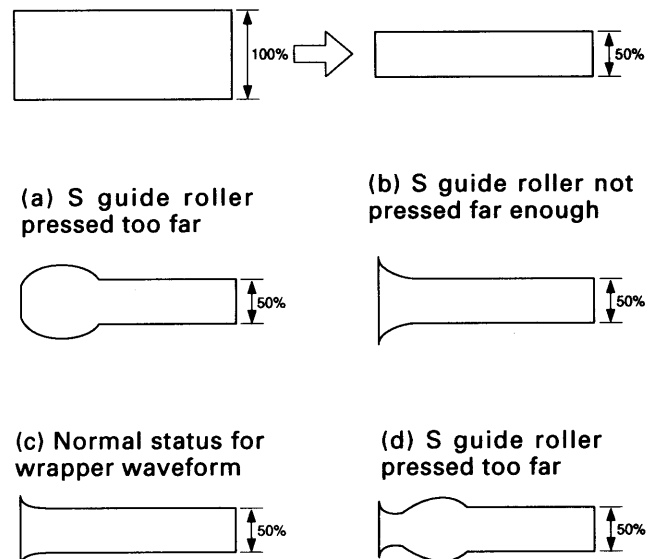

Fig.4-3-4
- ① Playback the alignment tape (NTSC: VSJ-1001, PAL: VHJ-0052). Press the tracking (–) button, and check whether, when the envelope waveform has reached 50% of its maximum, the front half of the envelope waveform is flat. If not, fine-tune the S guide roller as follows.
- a. If the front half of the envelope waveform is as shown in Fig.4-3-4 (a), this means that you have pressed the S guide roller too far. Therefore, loosen it slightly, and when it is in the state shown in Fig.4-3-4 (b), tighten it again, stopping when the envelope waveform is flat.
- b. If the front half of the envelope waveform is as shown in Fig.4-3-4 (b), this means you have not pressed the S guide roller far enough. Therefore, tighten it slightly, stopping when the envelope waveform becomes flat.
- c. If the front half of the envelope waveform is as shown in Fig.4-3-4 (c), it may happen that when you tighten the S guide roller, the wrapper waveform does not disappear, but sinks into the flat part, as shown in Fig.4-3-4 (d). If this happens, the status shown in Fig.4-3-4 (c) is normal, so loosen the S guide roller, then tighten it again until the envelope waveform is as shown in Fig.4-3-4 (c).
- ② Check that at the tracking centre, the output of the front half of the envelope waveform is not less than 80% of the maximum.
- ③ Rotate the S guide roller 20° counterclockwise.
- ① Playback the alignment tape (NTSC: VSJ-1001, PAL: VHJ-0052). Press the tracking (–) button and check whether, when the envelope waveform is 50% of maximum, the back half of the envelope waveform is flat. If not, loosen the T guide roller slightly, then tighten it gradually until the back half of the envelope waveform becomes flat.
- ② Check that the output for the back half of the envelope waveform is at its maximum at the tracking centre.